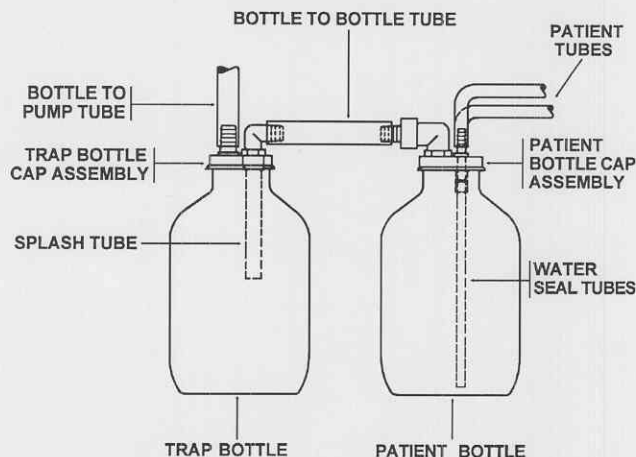

Figure 2-3. Patient drainage system.
c. Tubing (fig 2-3).
(1) Connect the bottle to pump tube from the trap bottle cap assembly to the vacuum pump swivel connector located on the underside of the control/pump module.
(2) Install the bottle to bottle tube between the patient bottle swivel connector and the barb connector on the trap bottle.
(3) Connect each patient tube onto the patient bottle cap assembly.